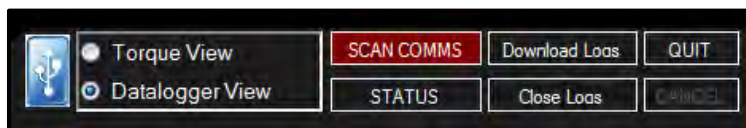

Figure 5.2-1: Scan Comms for Transducers
5. **If the Transducer doesn't connect to the Software, select "Scan Comms" from the bottom of the screen** (Figure 5.2-1). See Section 8.0 – Troubleshooting if the problem persists.